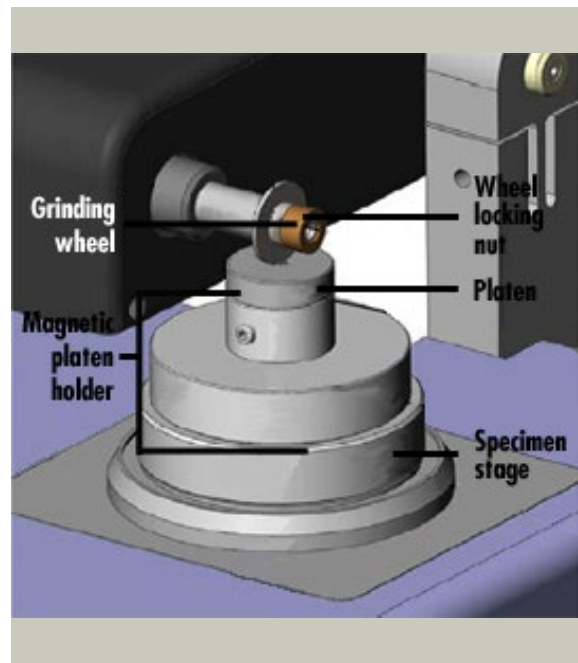

Figure 5. Model 200 Dimpling Grinder schematic.
12. Install the platen into the magnetic platen holder and tighten the setscrew. Ensure that the setscrew is aligned with the slot in the platen before tightening (see Figure 5).